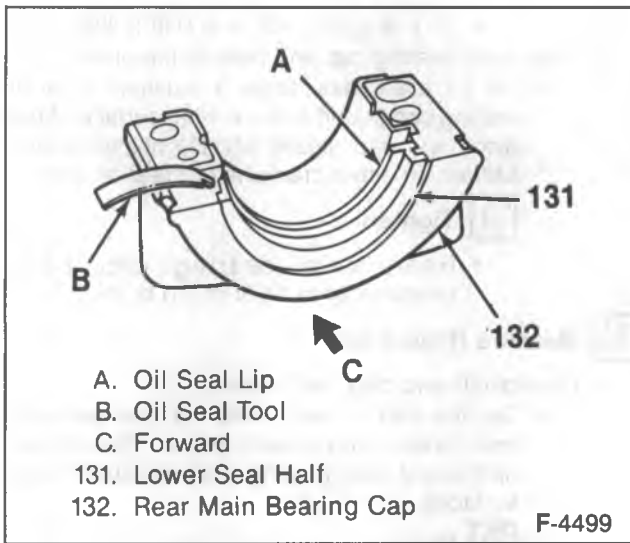

Figure 52—Crankshaft Rear Oil Seal Installation (7.4L Engines)
1. Lower seal (131) (figure 52).